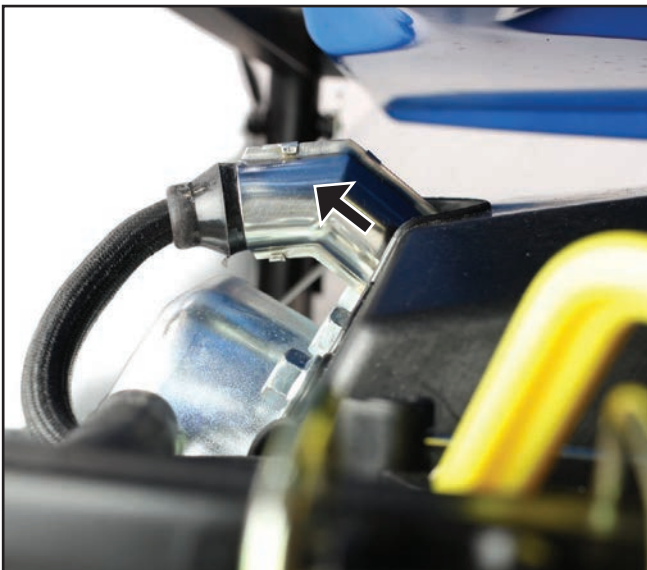

Figure 47 – Removal of Spark Plug Boot
3. Remove the spark plug boot by firmly pulling it directly away from the engine (see *Figure 47*).